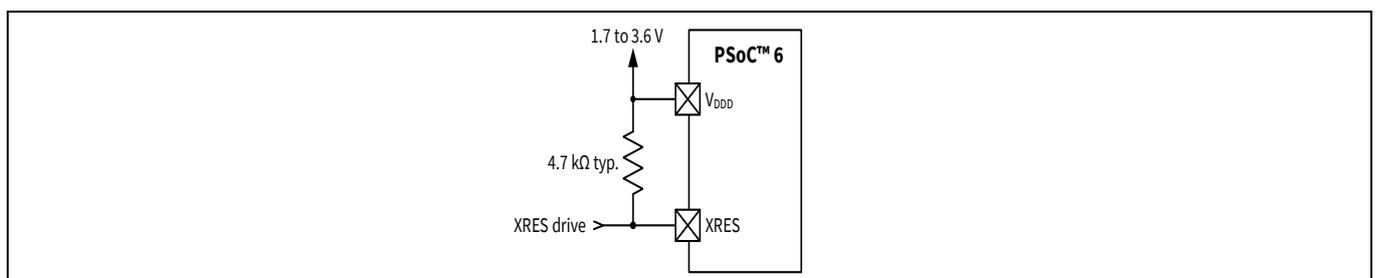

Figure 5 XRES connection diagram
- External reset dedicated pin (XRES) to reset the device using an external source. The XRES pin is active low. It can be connected either to a pull-up resistor to V_{DD} , or to an active drive circuit, as **Figure 5** shows. If a pull-up resistor is used, select its value to minimize current draw when the pin is pulled low; 4.7 kΩ is typical.